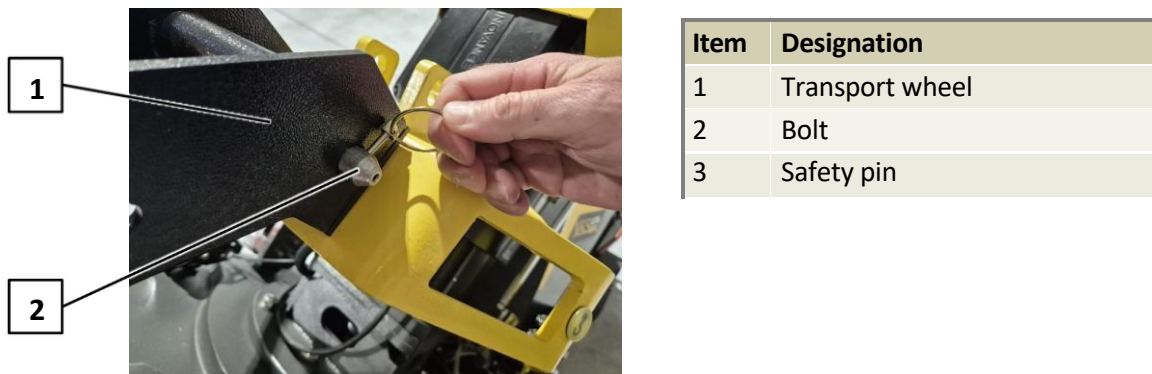

Fig. 24 Locking pin on the bolt of the transport wheel
- Insert the safety pin → Fig. 24.